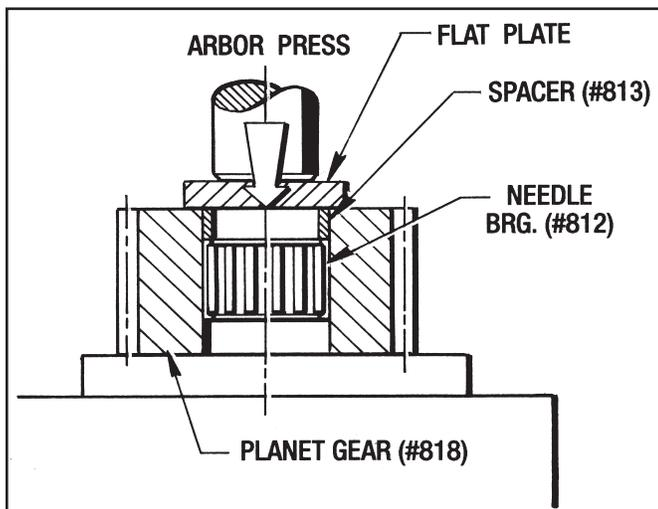

Figure 9.21 - Installing Needle Bearings (#812)
- Place a Spacer (#813) on top of the Needle Bearing (#812) and press it into the gear until the Spacer (#813) is flush with the gear face. (See Figure 9.21)